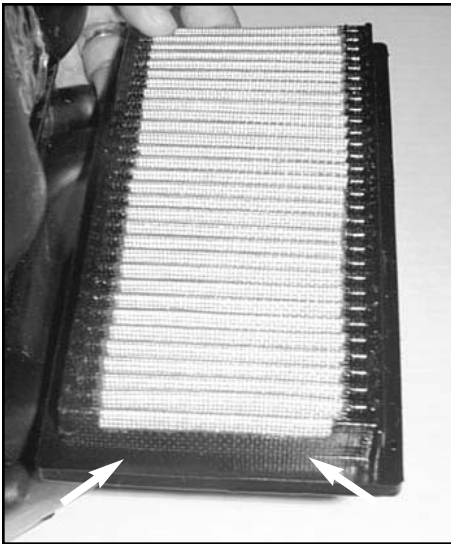

Fig. 1
2. Apply a layer of the provided K&N Sealing Grease to both ends of the K&N Filtercharger®. (Fig. 1)